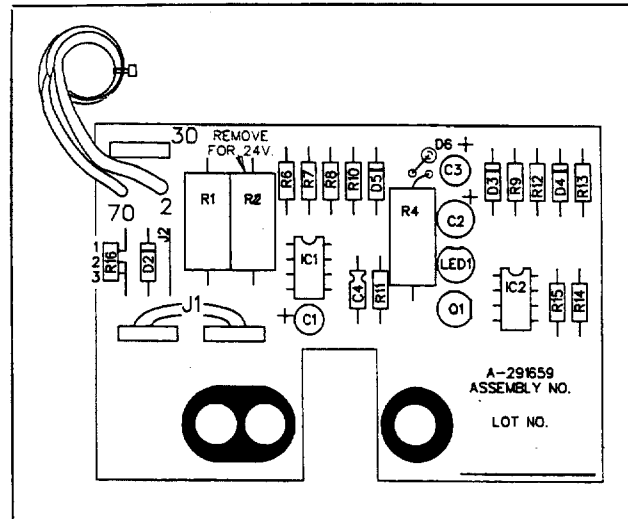

Figure 5. Overvoltage Shutdown Board Adjustment Pot.
- d. Use screwdriver to slowly turn overvoltage shutdown board adjustment pot. (R16) clockwise until red L.E.D. on overvoltage board turns off. Generator set will shutdown approx. 2 seconds after L.E.D. goes off. See Figure 5.